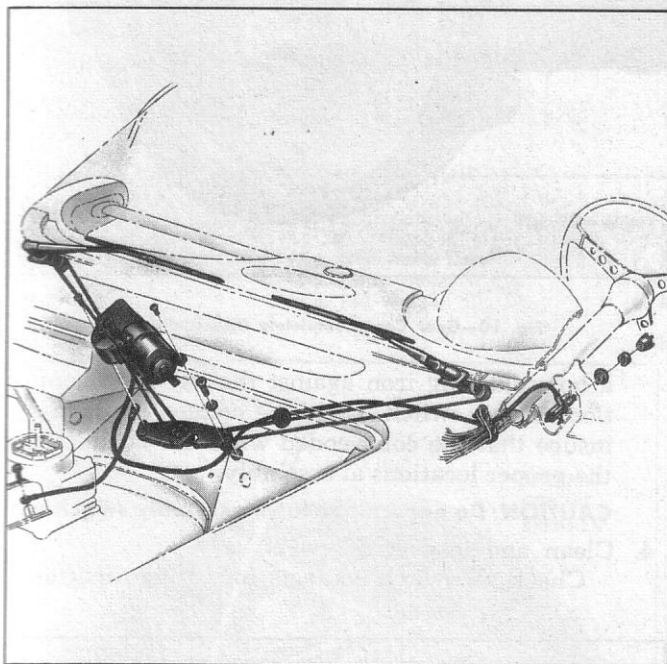

Fig. 5—Wiper Motor Mounting
2. Remove two screws retaining motor to mounting plate (fig. 5). Remove motor assembly from vehicle.